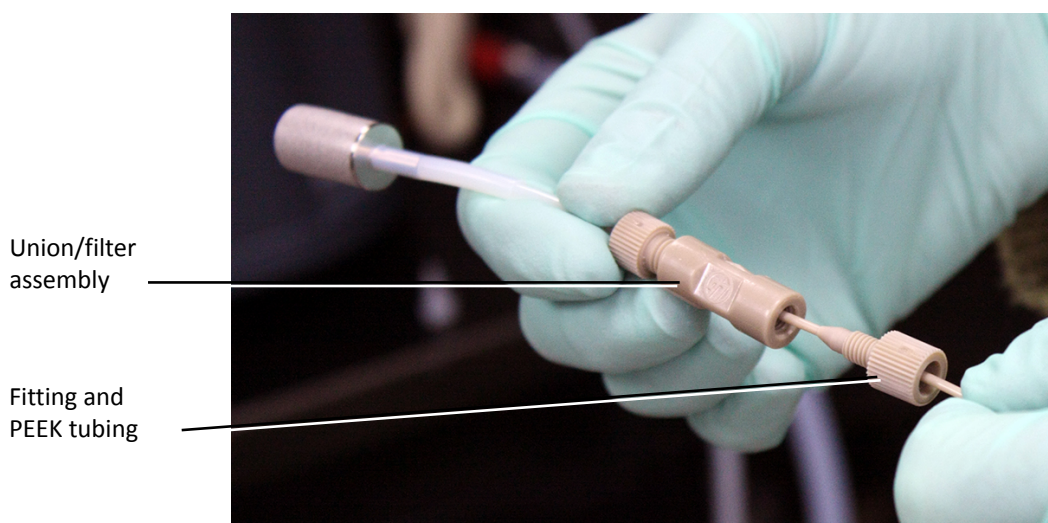

Figure 9 - Connecting the fitting to the union
10. Finger-tighten the fitting on the PEEK tubing into the union (with the attached solvent filter adapter assembly). See Figure 9.